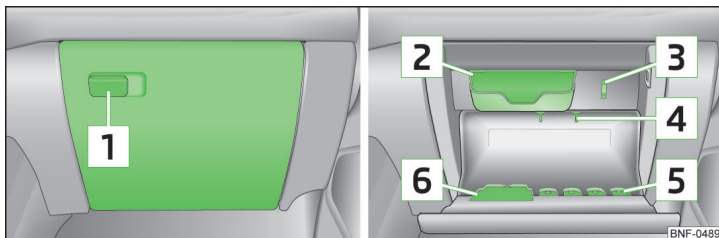

Fig. 61 Storage compartment on the front passenger side
Storage compartment » Fig. 61
► Pull on the opening lever » Fig. 61.